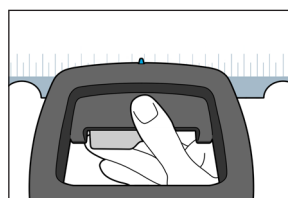

Fig. 8
3. Use the blue indicator on the handle and the scale on the device to align the handle to the desired location (Fig. 8).